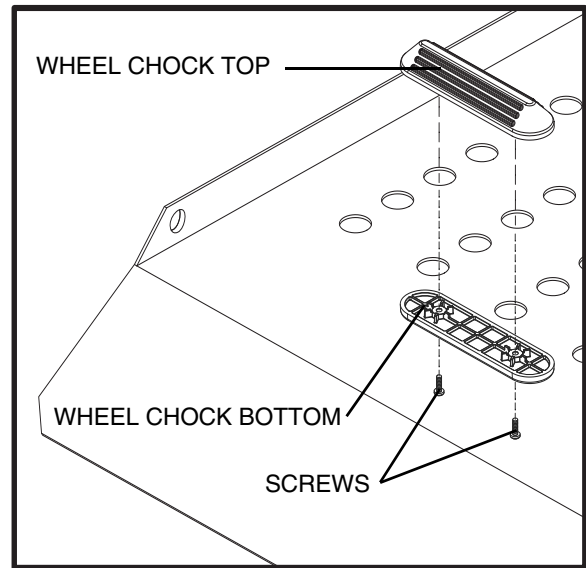

Figure 11. Wheel Chock Installation
7. Secure the wheel chock sections to the platform using the supplied hardware. **See figure 11.**